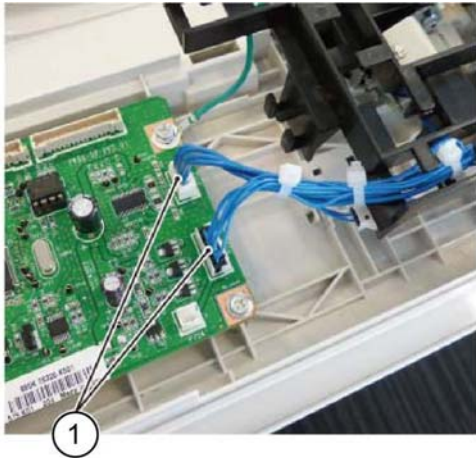

Figure 2 DADF PWB connectors
5. Disconnect the DADF PWB connectors (1), Figure 2.